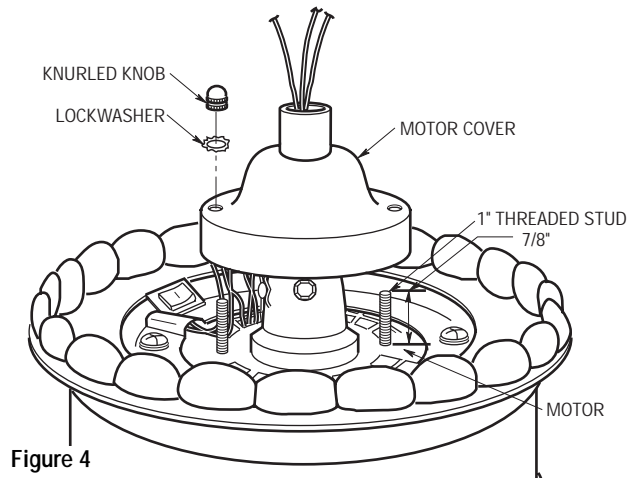

Figure 4
6. Screw two 1" threaded studs (supplied) into the motor (Figure 4). Leave approximately 7/8" of the stud extending above the motor. Slide the motor cover over the downrod and rotate the cover until the threaded studs protrude; install two lockwashers and knurled knobs (supplied) to secure the cover.